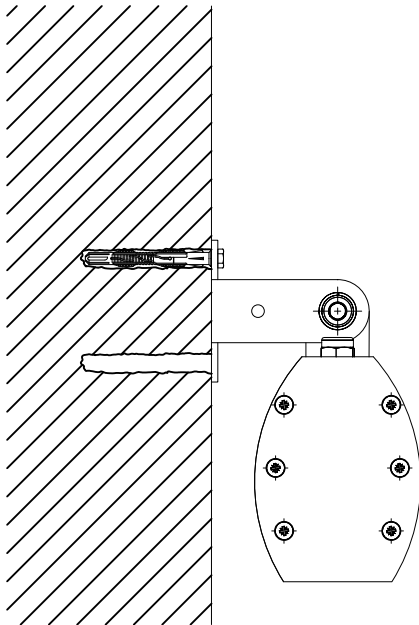

Fig. 1
- Mount the hanging bracket according Fig.1. Use dowels and screws. (Fig. 1)